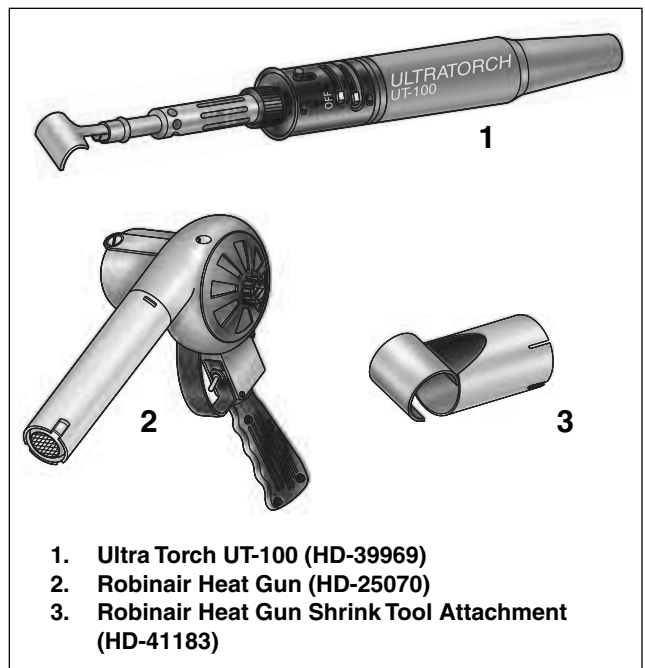

Figure 8-113. Radiant Heating Devices
6. See Figure 8-113. Using the UltraTorch UT-100, Robinair Heat Gun with heatshrink attachment or other suitable radiant heating device, uniformly heat the heat-shrink tubing to insulate and seal the soldered connections. Apply heat just until the meltable sealant exudes out both ends of the tubing and it assumes a smooth cylindrical appearance.